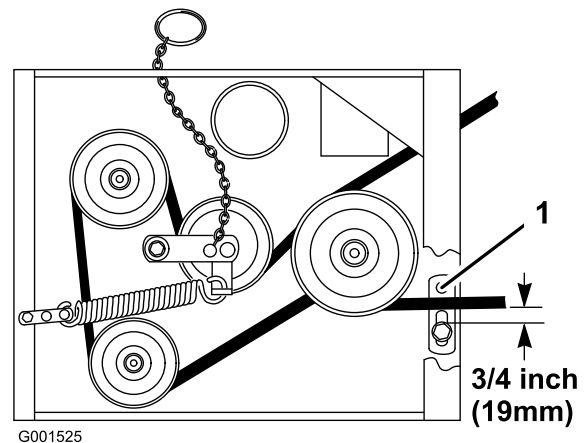

Figure 52
8. Check the belt guide under the engine frame for proper adjustment (Figure 52).
Note: The distance between the belt guide and the mower belt should be 3/4 inch (19 mm) when you engage the mower belt (Figure 52). Adjust the mower belt as necessary. The disengaged belt should not drag or fall off the pulley when the guides and belt tension are properly adjusted.